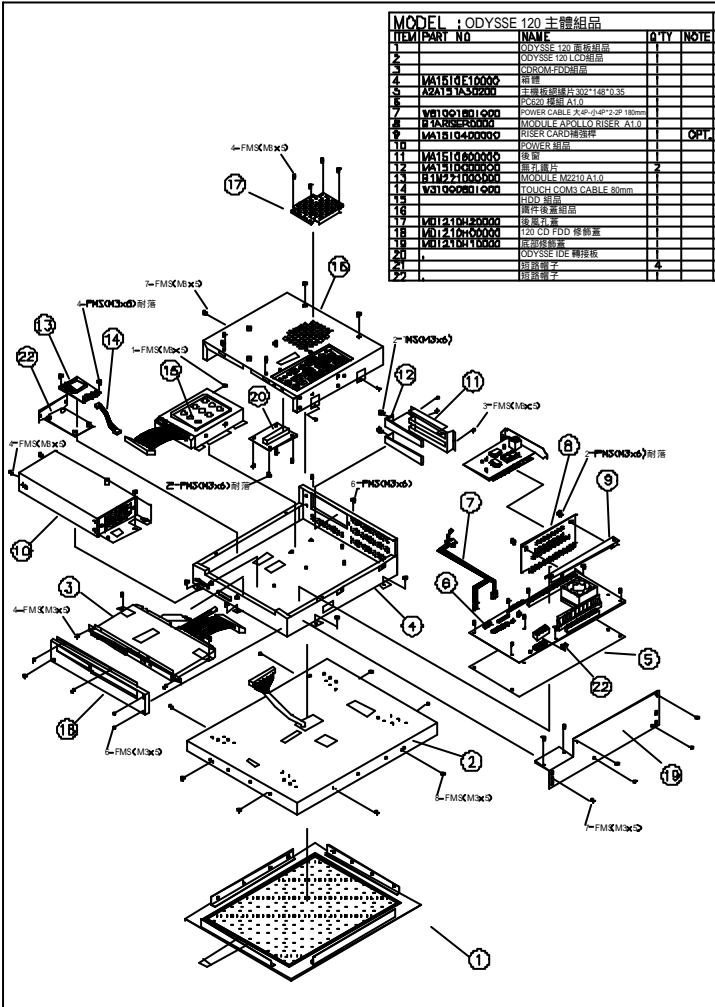

FIGURE 5-1: ODYSSE 120 EXPLODED DIAGRAM
3. Tape the motherboard insulator (5) (Fig. 5-1 to 5-3 (5)) to the motherboard (6) first. The insulator is to separate the electronic components on the reverse side of the motherboard from the metal compartment to prevent short circuitry caused during system operation.
4. Fix the motherboard (6) with an insulator to the chassis with eight PMS M3*6 screws.
1. For Elo touch, the touchscreen cable (Fig. 5-1. (14)) is a 2*5-pin to 2*5-pin flat cable. One end is connected to **P1** on the touchscreen controller first.
4. Fix the touchscreen controller (13) to the bracket with 2 PMS M3*6 screws.